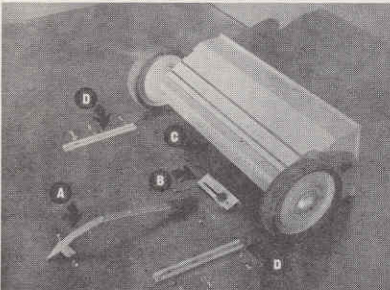

Figure 2
Insert slide lever (A) Figure 2 into slot of regulator plate (B) Figure 2 and engage tip into slot of bottom slide (C) Figure 2. Fasten slide lever bracket to hopper using two $\frac{3}{16}$ " x $\frac{3}{8}$ " bolts lockwashers and nuts, with nuts inside hopper. Fasten regulator plate (B) Figure 2 to hopper using two $\frac{1}{4}$ " x $\frac{1}{2}$ " bolts, lockwashers and nuts. Before tightening these nuts, set adjusting plate on No. 19. Move slide lever so that openings in bottom slide (C) Figure 2 form perfect rectangular openings with the openings in the hopper bottom. Move regulator plate (B) Figure 2 until lever rest against adjusting plate of No. 19, then tighten very securely.
Attach braces (D) Figure 2 to hopper using four $\frac{1}{4}$ " x $\frac{5}{8}$ " bolts, lockwashers and nuts.